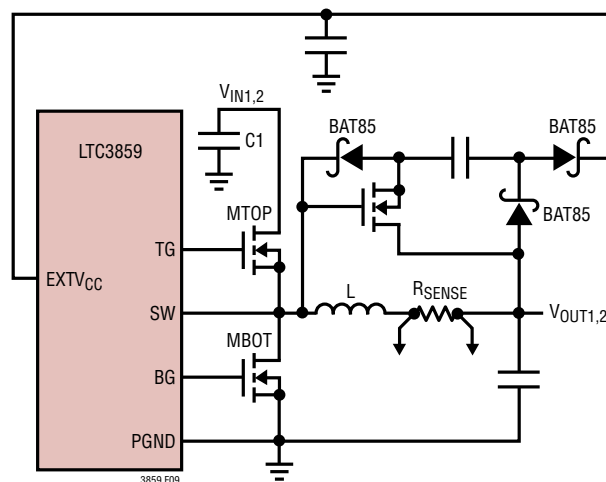

Figure 9. Capacitive Charge Pump for EXTVCC
4. EXTVCC connected to an output-derived boost network off one of the buck regulators. For 3.3V and other low voltage buck regulators, efficiency gains can still be realized by connecting EXTVCC to an output-derived voltage that has been boosted to greater than 4.7V. This can be done with the capacitive charge pump shown in Figure 9. Ensure that EXTVCC < VBIAS.